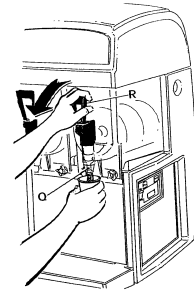

FIGURE 10
1. To dispense the product, place the cup beneath the dispensing valve (Q) and pull the lever (R) very gently (FIGURE 10).